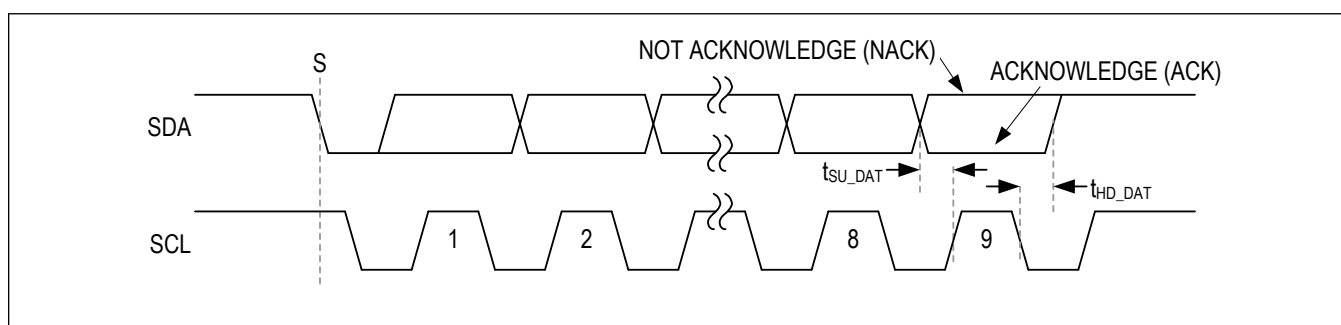

Figure 32. Acknowledge Bit
Both the I2C bus master and slave devices generate acknowledge bits when receiving data. The acknowledge bit is the last bit of each nine bit data packet. To generate an acknowledge (A), the receiving device must pull SDA low before the rising edge of the acknowledge-related clock pulse (ninth pulse) and keep it low during the high period of the clock pulse. See Figure 32. To generate a not-acknowledge (nA), the receiving device allows SDA to be pulled high before the rising edge of the acknowledge-related clock pulse and leaves it high during the high period of the clock pulse.